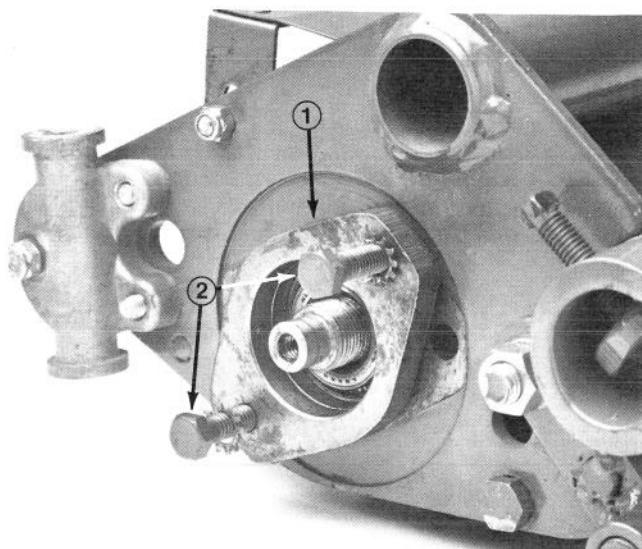

Figure 15
- Using a plastic headed hammer, rotate bearing housing slightly, install bearing housing bolts from outside housing, turn bolts alternately against side plate and use this method to remove bearing housing (Fig. 15).